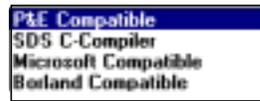

Figure 4-16. Error Format List
- **Error Format** — Click the down arrow to the right of the **Error Format** list box to display the list of error formats (**Figure 4-16**). If the WinIDE editor is to attempt to read back an error from a compiler, it must understand the error syntax. This option lets the user select an error format from a list of supported formats. If the **Recover Error from compiler** option is checked, and the filename specified in the **Error**